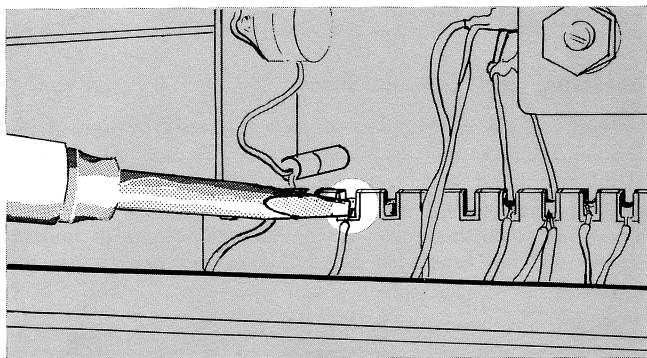

Fig. 6-2. Correct method of applying heat in soldering to a ceramic strip.
4. Apply one side of the tip to the notch where you wish to solder (see Fig. 6-2).